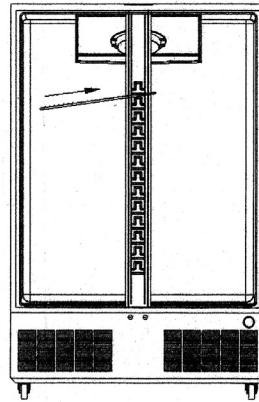

Figure 2
2. Slide shelf through the notch above the mullion shelf support at your preferred height. (figure 2.)